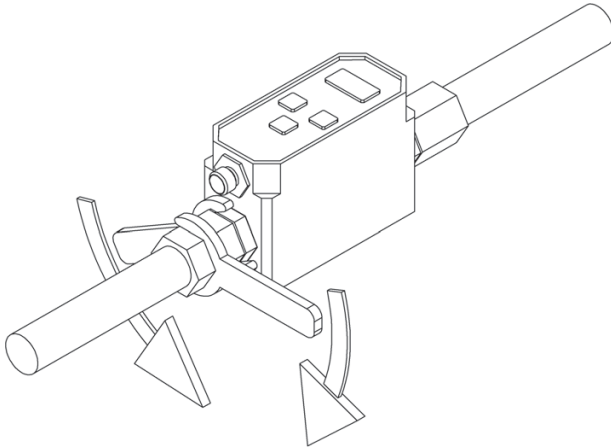
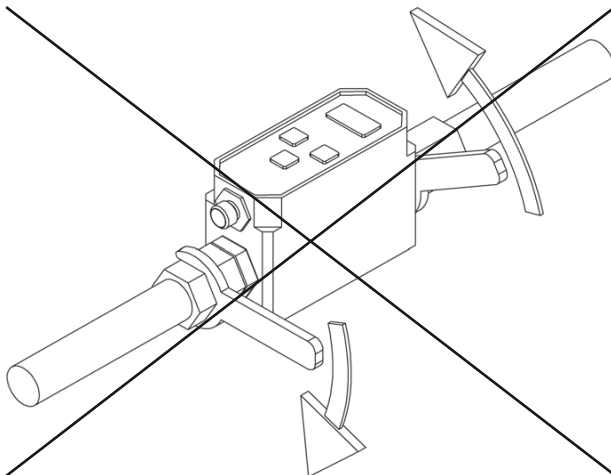

Fig. 7: Example of shear forces
Fig. 8: Negative example of shear forces
Installing *in-line* in a pipeline (see Fig. 7).
- ▶ When installing and during operation be sure that no shear forces can arise (see Fig. 7 and Fig. 8).